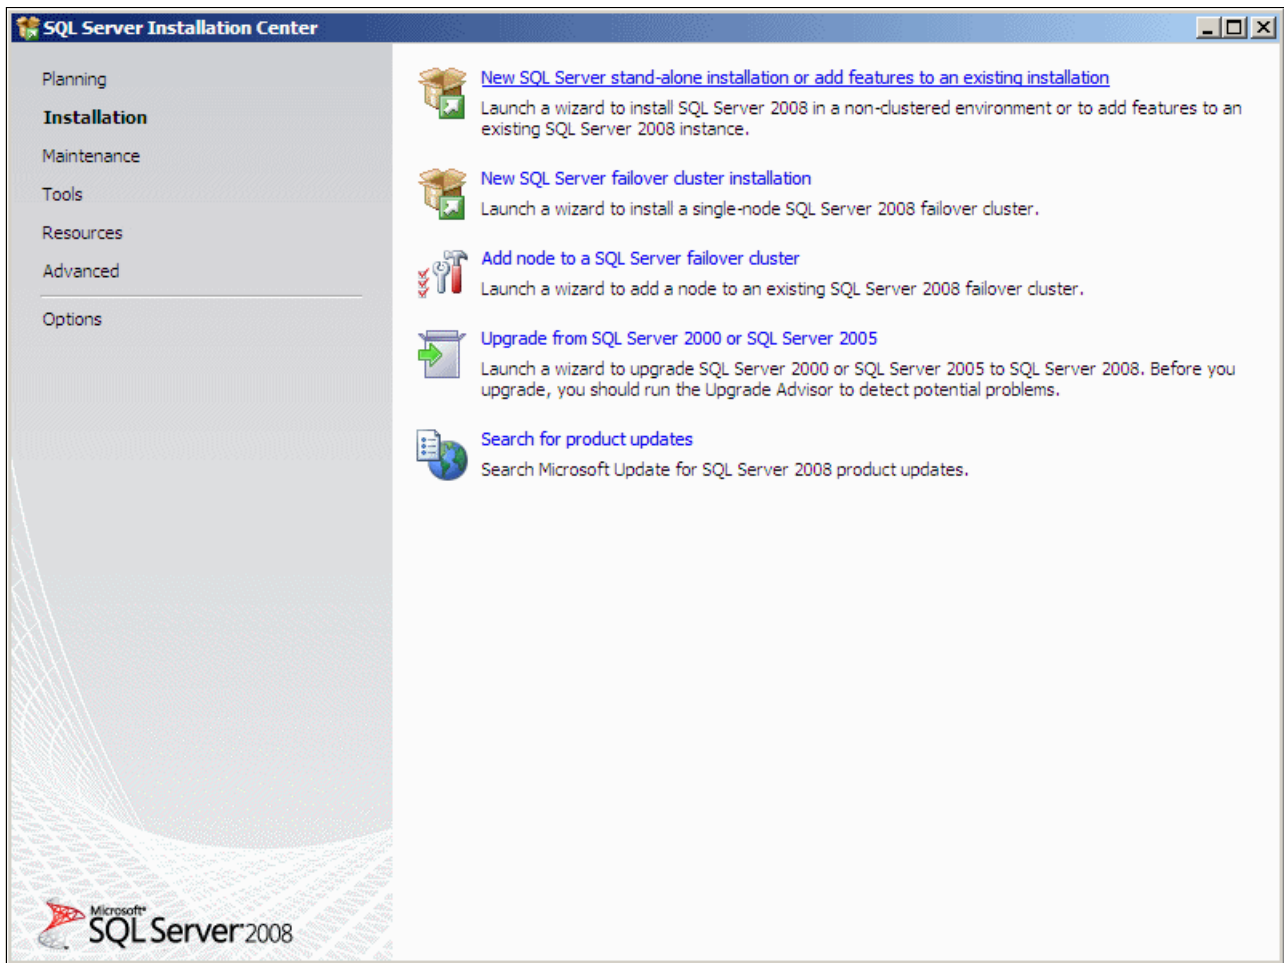

Figure 6-19 SQL Server standalone panel
4. The “SQL Server Installation Center” panel (Figure 6-18 on page 150) displays several installation options (Figure 6-19). Click **New SQL Server stand-alone installation or add features to an existing installation**. This is the option we selected.